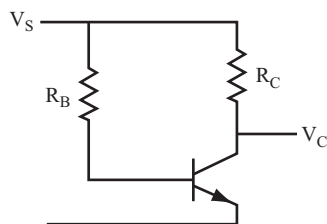

FIGURE 12.3
- 22.** Using the circuit shown in Figure 12.3, find the DC collector voltage,  $V_C$ , if  $V_S = 28$  volts,  $\beta = 10$ ,  $R_B = 200\text{ k}\Omega$ , and  $R_C = 10\text{ k}\Omega$ . \_\_\_\_\_
- 23.** Again, using the circuit shown in Figure 12.3, find  $R_B$  if  $V_S = 12$  volts,  $\beta = 250$ ,  $R_C = 2.2\text{ k}\Omega$ , and  $V_C = 6$  volts. \_\_\_\_\_
- 24.** Using the circuit shown in Figure 12.3, find  $\beta$  if  $V_S = 10$  volts,  $R_B = 100\text{ k}\Omega$ ,  $R_C = 1\text{ k}\Omega$ , and  $V_C = 5$  volts. \_\_\_\_\_